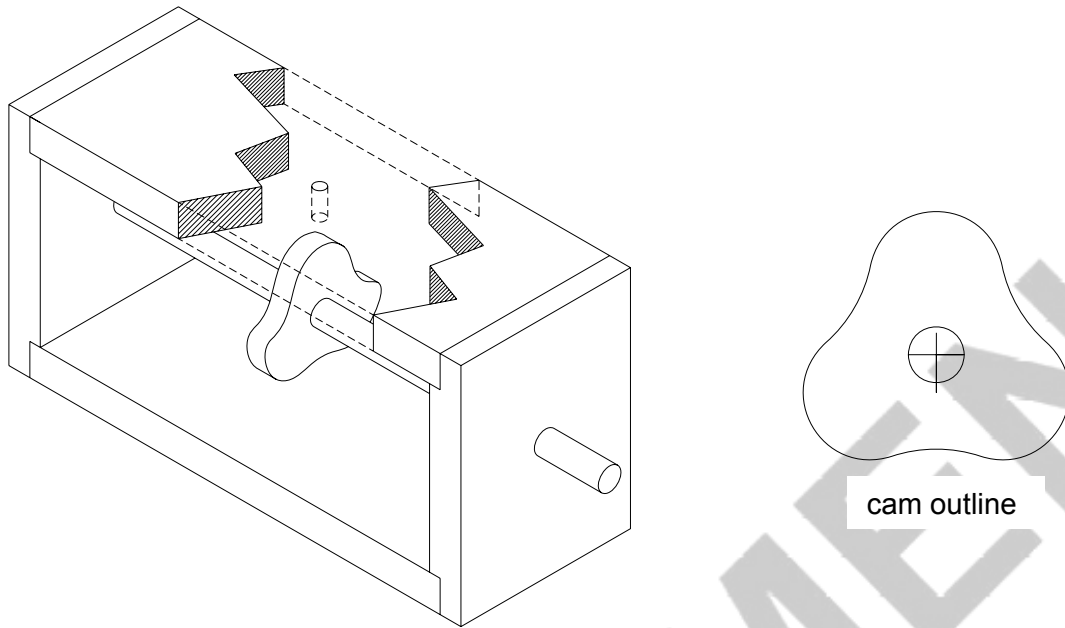

Fig. 13
- (b) The outline of a framework that will hold the cam is shown in Fig. 13.
- (i) Draw a roller follower on the cam outline in Fig. 13.